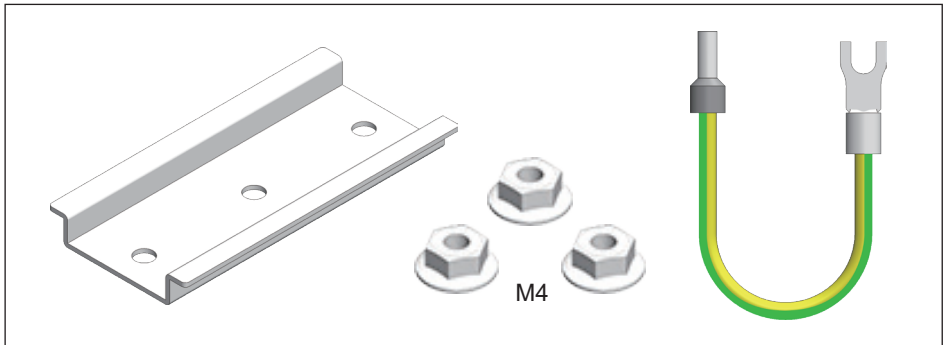

Figure A-2: DC SPD spare parts
- Exchange DC SPD, there are some spare parts for exchange SPD, such as PE wiring, track and nuts are shown in **Figure A-2**.